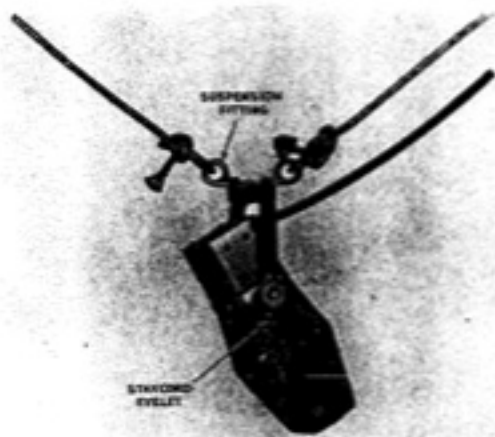
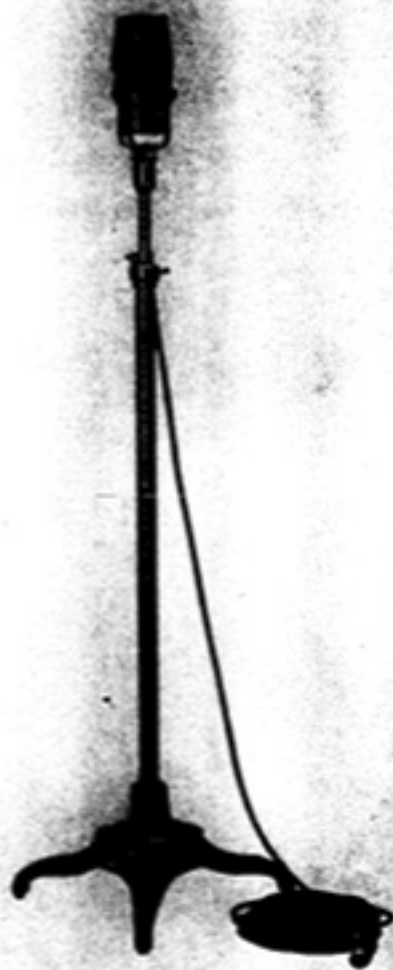

FIGURE 1—TYPE PB-144 VELOCITY MICROPHONE SUSPENDED
FIGURE 2—TYPE PB-144 VELOCITY MICROPHONE ON PROGRAM STAND
2. DESCRIPTION - The MI-3027 microphone unit is furnished with a suspension fitting (Type UP-4212-A) to permit the unit to be suspended overhead. This location of the microphone is that generally used in sound motion picture recording. See Figure 1. The microphone may also be mounted on a program or announce stand as shown in Figures 2, 3, and 4.